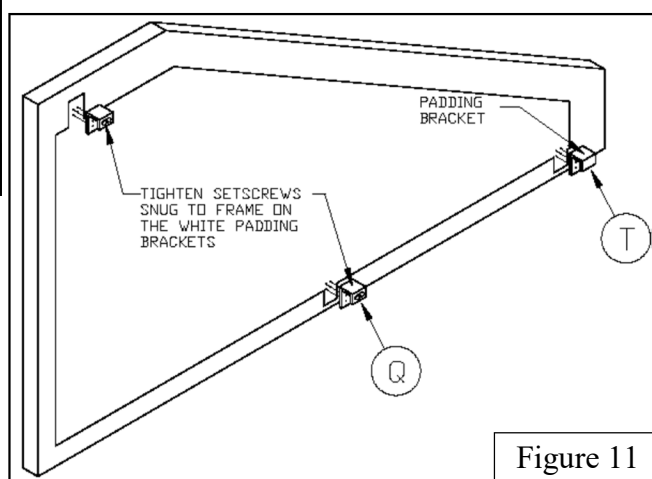

Figure 11
11. When adjusted, raise the goal to playing position, re-measure the *Breakaway Goal (L)* height.
12. You may need to repeat some adjustments in instruction #5-#11 until you are confident that the *Breakaway Goal (L)* is level and the *Backboard (J)* is level and plumb when the top of the *Breakaway Goal (L)* is in the official 10' playing position.
13. Using the *1/4" X 3/4" Flat Head Screws (O)* install the *White Padding Brackets (Q)* and *Gray Pad Brackets (T)* on the *Front and Side Pads (N)*. Install *Front, Side and Arm Pads (N)* to *Portable Base (A)*. Tighten all set screws on the *White Pad Brackets (Q)* snug against frame. See Figure 11 and 12.